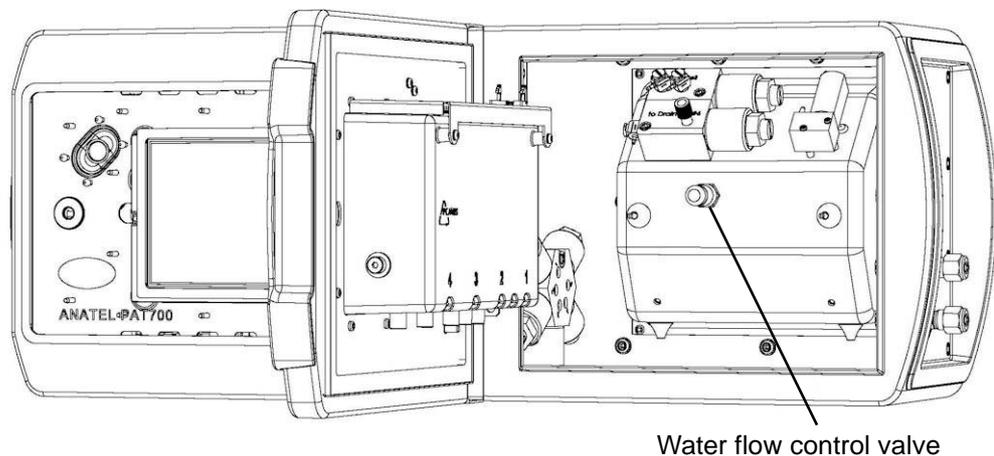

Figure 2-7 PAT700 water flow control valve location
- 5) If the flow rate exceeds the analyzer's specification the rate can be adjusted using the flow control valve. See Figure 2-7.